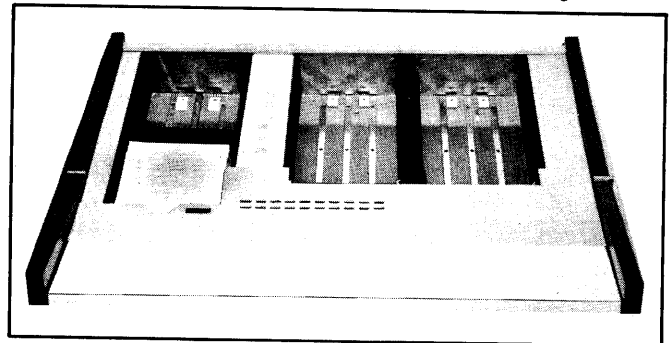

Figure 14. Model 7140 Input Hopper and Output Stackers
1. Remove the card weight (and any card present) from the input hopper (see Figure 14). Cards may remain in the output stacker provided it is not full (indicated by illumination of the STACKER light). Press the RESET switch to initialize the reader and clear fault conditions. The transport motor may start depending upon the position of the POWER switch.